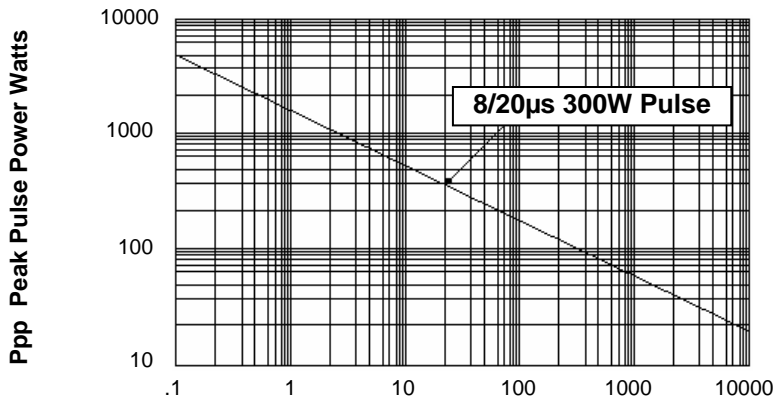

FIGURE 1
- Peak Pulse power 300 watts (8/20 μs Figure 1)